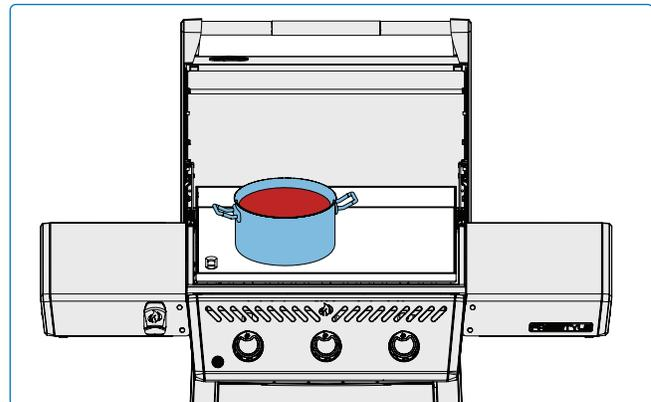

Fig. 10
- Use the griddle plate to melt or warm sauces. Place pots or pans off to one side over low to medium heat. **(Fig. 10)**.